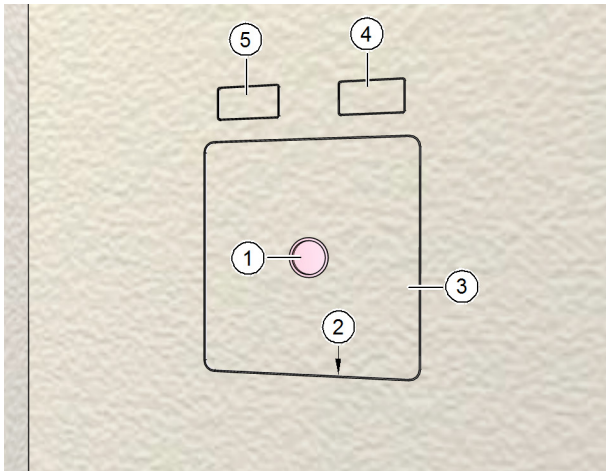

Fig. 25: Wall box plastered on the inside
- ▶ Remove the signal cover (item 1 in Fig. 25).
- ▶ Use a blade to score the plaster on the inside of the plastering trim (item 2 in Fig. 25).
- ▶ Carefully remove the protective cover (item 3 in Fig. 25).
- ▶ Remove the protective cover over the supply air duct (item 4 in Fig. 25) and / or exhaust air duct (item 5 in Fig. 25).